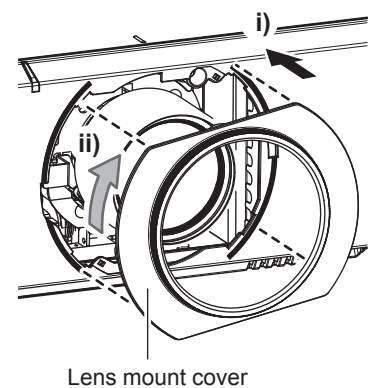

Fig. 3
- 3) **Attach the lens mount cover. (Fig. 3)**